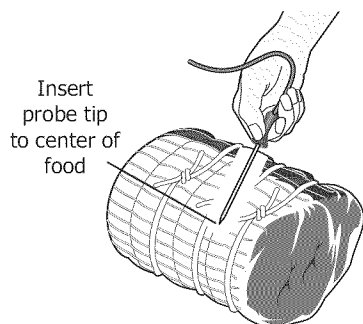

**Figure 25: Probe receptacle insertion**
The probe receptacle is located at the top of the oven cavity as shown in Figure 25.
Handle the meat probe carefully when inserting and removing from food or probe receptacle. Do not use kitchen utensils, such as tongs, to pull on meat probe cable when inserting or removing from food or receptacle. Use the provided handle, as shown in Figure 25. To avoid possibility of burns after cooking, carefully unplug meat probe using a pot holder to protect hands.
2. Plug the meat probe into the probe receptacle located on the top of the oven cavity (Figure 25).